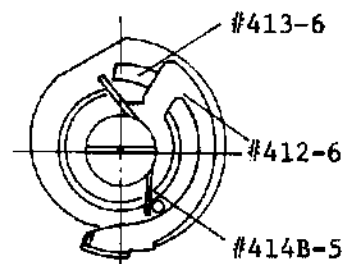

Fig. 4-1
- R** Figure 4-1 shows the section where Spring #412 should be cemented on Wind-up cam #413-6.